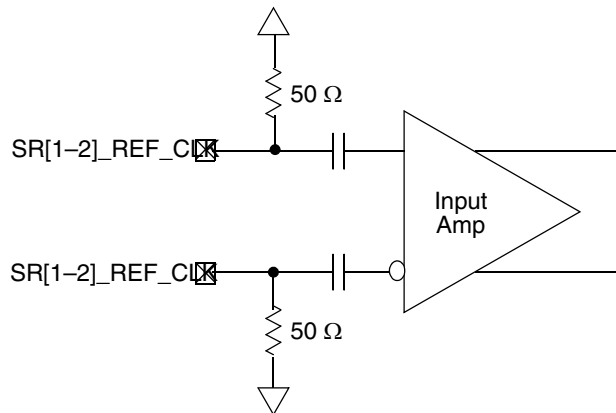

Figure 5. Receiver of SerDes Reference Clocks
The SerDes reference clock inputs are applied to an internal PLL whose output creates the clock used by the corresponding SerDes lanes. The SerDes reference clock inputs are $\text{SR1_REF_CLK}/\overline{\text{SR1_REF_CLK}}$ or $\text{SR2_REF_CLK}/\overline{\text{SR2_REF_CLK}}$. Figure 5 shows a receiver reference diagram of the SerDes reference clocks.
- The $\text{SR}[1-2]_{\text{REF_CLK}}$ and $\overline{\text{SR}[1-2]_{\text{REF_CLK}}}$ are internally AC-coupled differential inputs as shown in Figure 5. Each differential clock input ($\text{SR}[1-2]_{\text{REF_CLK}}$ or $\overline{\text{SR}[1-2]_{\text{REF_CLK}}}$) has on-chip 50- Ω termination to GND_{SX0} followed by on-chip AC-coupling.